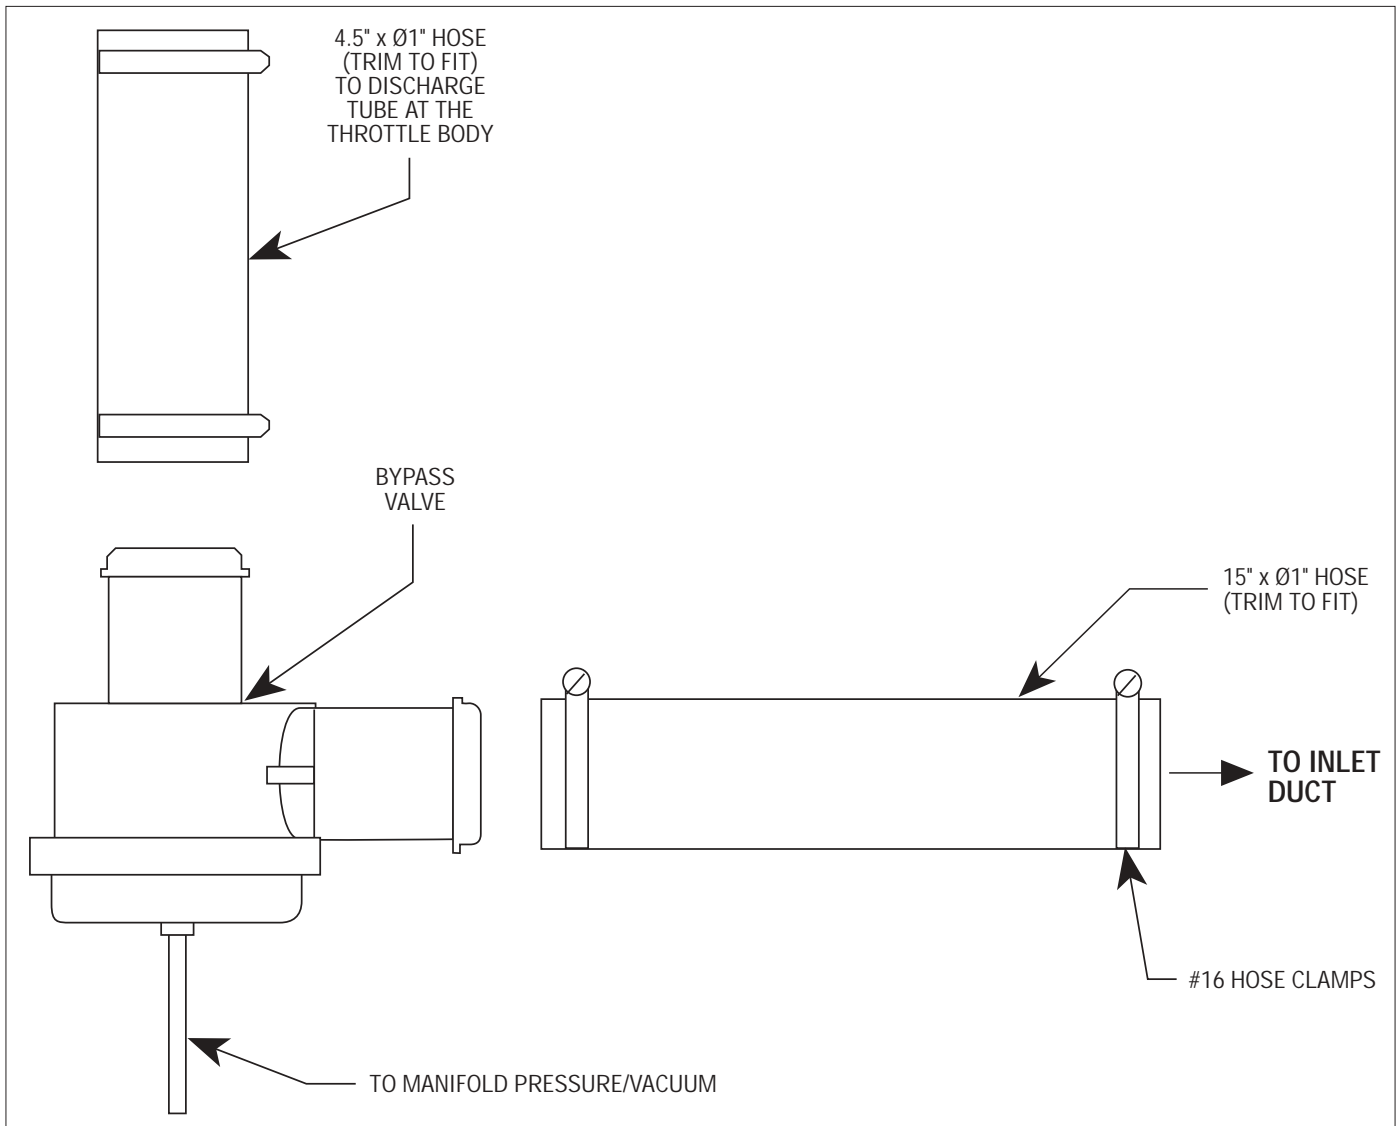

Fig. 3C-b
- d. Attach the open end of the 4.5" hose to the by-pass port on the cast discharge duct and secure using a #16 hose clamp. The open end of the 15" long hose will be attached to the inlet duct in a later step. (See Fig. 3C-b, 3C-d.)